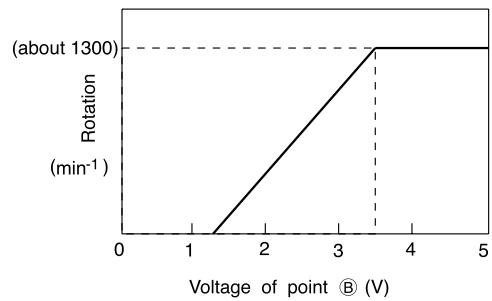

Fig. 6-3
- This pulse changes to analog voltage by R751 and C751 and it is applied to the fan motor as instruction voltage number of rotations. The relationship between the voltage of point ④ and number of rotations becomes as shown in Fig.6-3. (The gap may arise depending on the condition of unit.)
- The feedback pulse of number of rotation is outputted from the fan motor and input to micro computer pin ⑤5. The frequency of this pulse is 12/60 of the number of rotations. (Ex: 1000min⁻¹ × 12/60=200Hz) The micro computer observes this frequency and to make it as the instruction number of rotation all the time, adjusts the output pulse width of pin ⑤4.